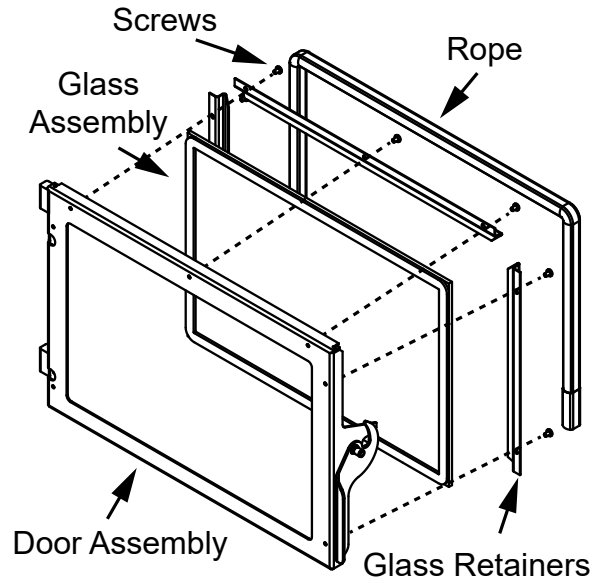

Figure 27.2
4. Slide the retainer rod into the top hole first, and then line up the bottom crimped end with the hole in the door. The crimped end must be parallel with the glass in order to insert it into place (**Figure 27.2**).